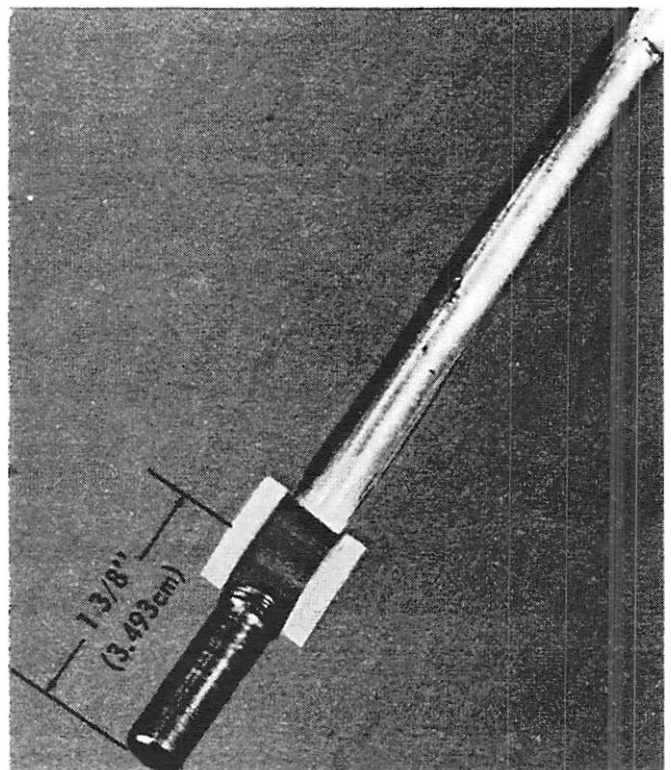

Figure 4A. Distance from Cable End to Center of Brass Barrel
4. Distance from end of cable to center line of brass barrel assembly must measure exactly 1-3/8" (3.5cm). (Figure 4A)